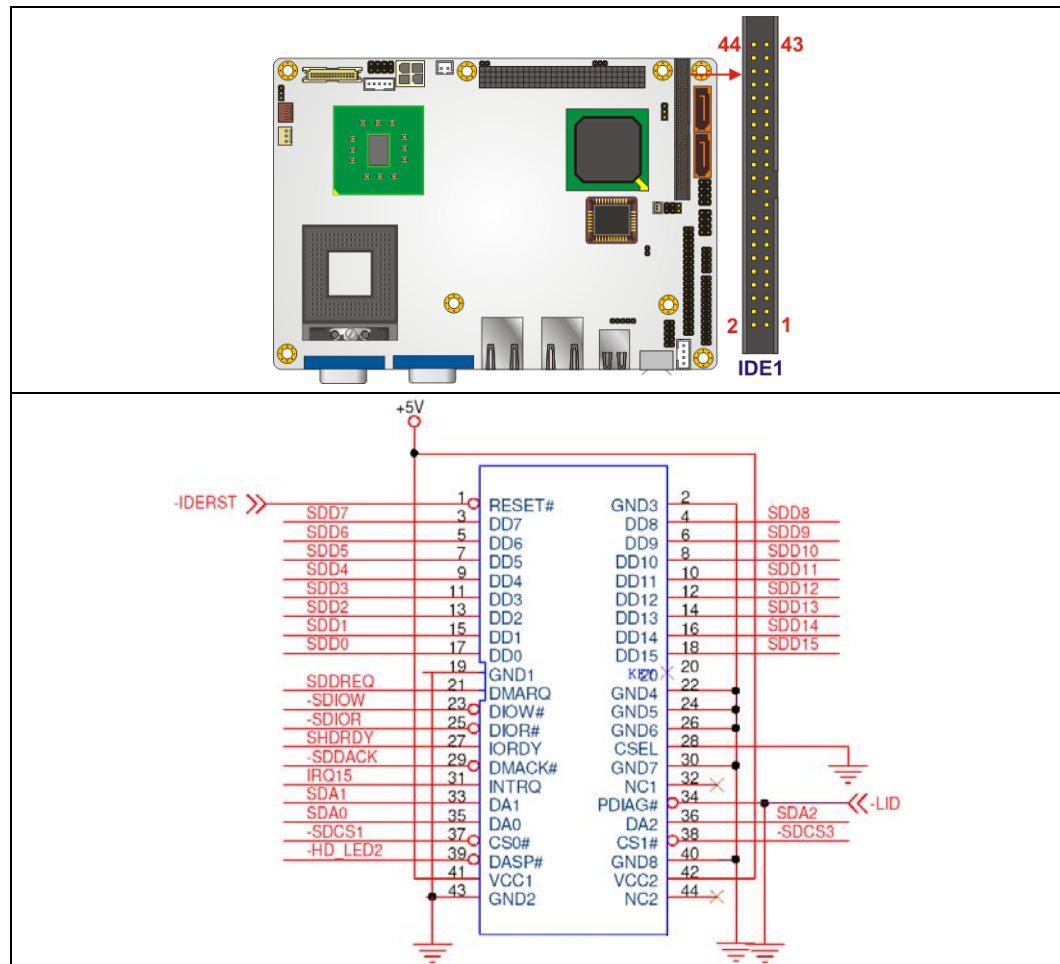

Figure 4-11: Secondary IDE Device Connector Locations
- CN Location:** See Figure 4-11